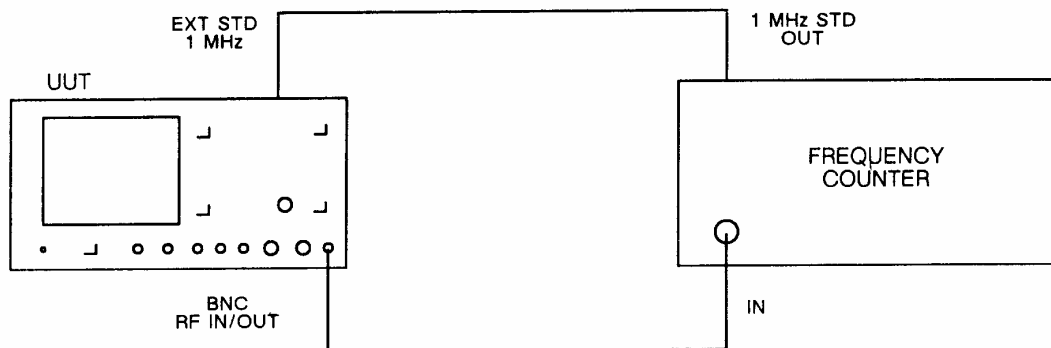

Fig. 5-1-20 Test equipment connections for RF generator RF accuracy performance checks
- (1) Connect the equipment as shown in Fig. 5-1-20.